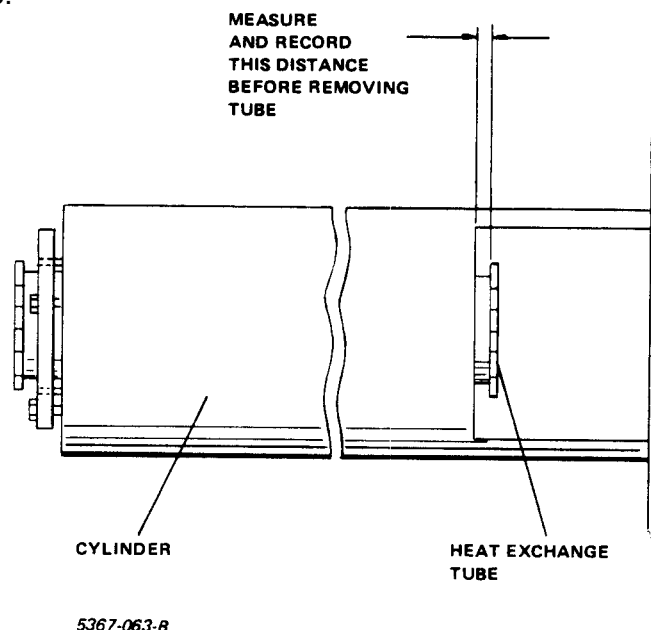

Figure 5-12. Heat Exchange Tube Rear Extension
3. Measure and record the distance between the rear flange on the heat exchange tube and the rear surface of the cylinder as shown in figure 5-12).
2. Push tube on into cylinder until dimension shown in figure 5-12 is reached (this dimension was recorded before removal).